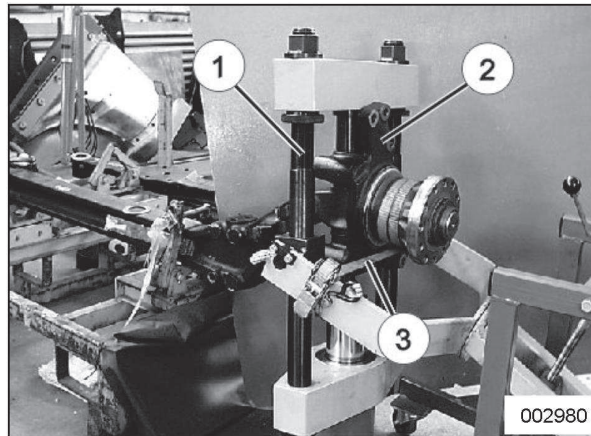

Figure 16:
- 5.5** Roll the portable press (1) of Figure 16, with the ram at the bottom, under the steering knuckle. Align the ram with the king-pin. Secure steering knuckle (2) with tension belt (3). Connect the hydraulic pump to the press.